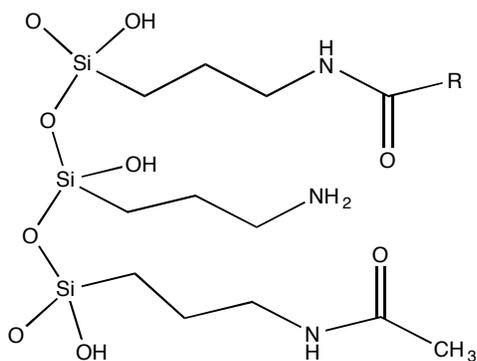

Figure 2. Amide phase prepared via a two-step reaction. The phase contains measureable amounts of residual amines.
Some of the older packings (5) with an incorporated amide group, and unfortunately also some of the newer ones (6), are prepared in a multi-step surface reaction. In this case, an aminosilane is attached to the surface first. Then the amino bonded phase is reacted with a long-chain acid chloride or something similar to create the reversed-phase character of the phase. Unfortunately, due to steric effects, such a surface reaction is always incomplete and leaves many residual amines on the surface. Attempts are made then to remove the residual amines with something like acetic anhydride or some other activated short-chain acid, but even such attempts have not been successful. The surface of such a packing is shown in figure 2. As it turns out, it is as difficult to remove the residual amino groups on such a packing as it is to remove residual silanols on a classical bonded phase.